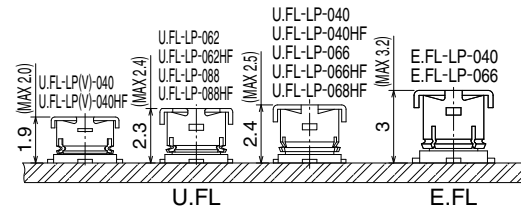

Fig.1
1. **Nominal mated height of 1.9 or 2.3mm, 2.4mm (Max. 2.0 or 2.4mm, 2.5mm)(Fig.1)**